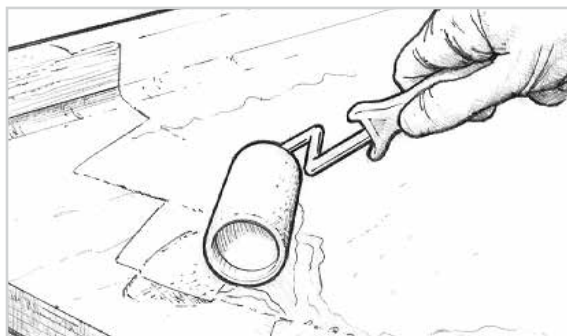

Figure 16-14 Wet out porous surfaces before applying thickened fairing compound.
2. Wet out porous surfaces with unthickened epoxy (Figure 16-14).